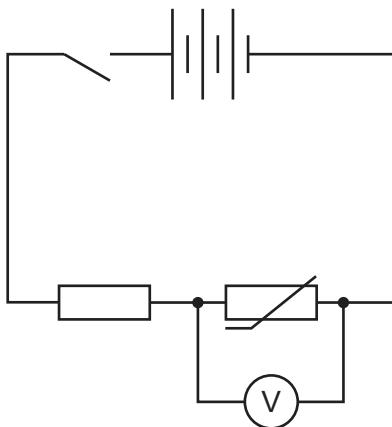

Fig. 2.1
4. The supervisor must use the connecting leads to assemble the circuit shown in Fig. 2.1.
Restore the circuit to the configuration shown in Fig. 2.1, making sure the thermistor is on the bench. Replenish the ice and water in the beaker.